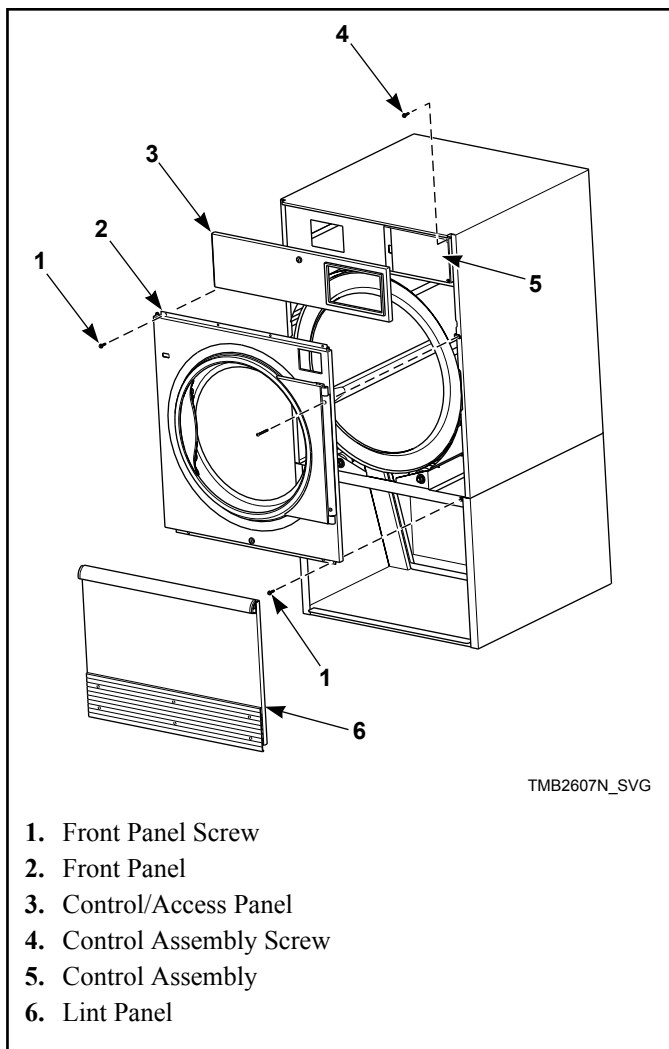
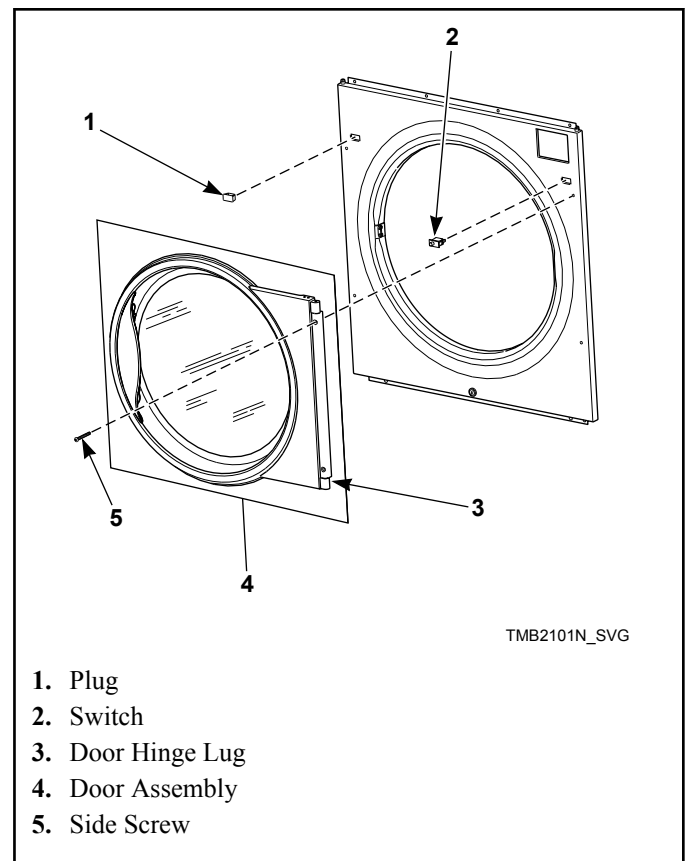

Figure 8
Figure 9
2. Unlock and remove control panel. Remove two control assembly mounting screws from right side. Swing open control to access upper flange right guide lug assembly. Refer to *Figure 8*.
4. Remove four front panel screws. Refer to *Figure 8* . Keep door hinge cams in place on door hinge lug. Pull lug and door assembly off as one piece. Refer to *Figure 9* .
5. Remove remaining front panel screws. Refer to *Figure 8* . Disconnect door switch harness from switch. Take off front panel. Refer to *Figure 9* .
6. Exchange switch and plug locations. Depress tabs with an adjustable pliers to remove plug and switch from front panel. Reinstall switch, orienting button toward center of machine. Reinstall plug in switch's previous location. Refer to *Figure 9* .